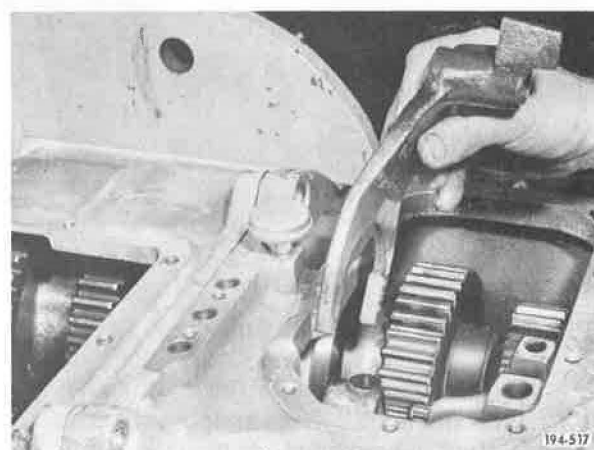

Figure 5-537. Installing Shift Fork
9. Install first speed shift fork onto first speed sliding clutch. See Figure 5-537.